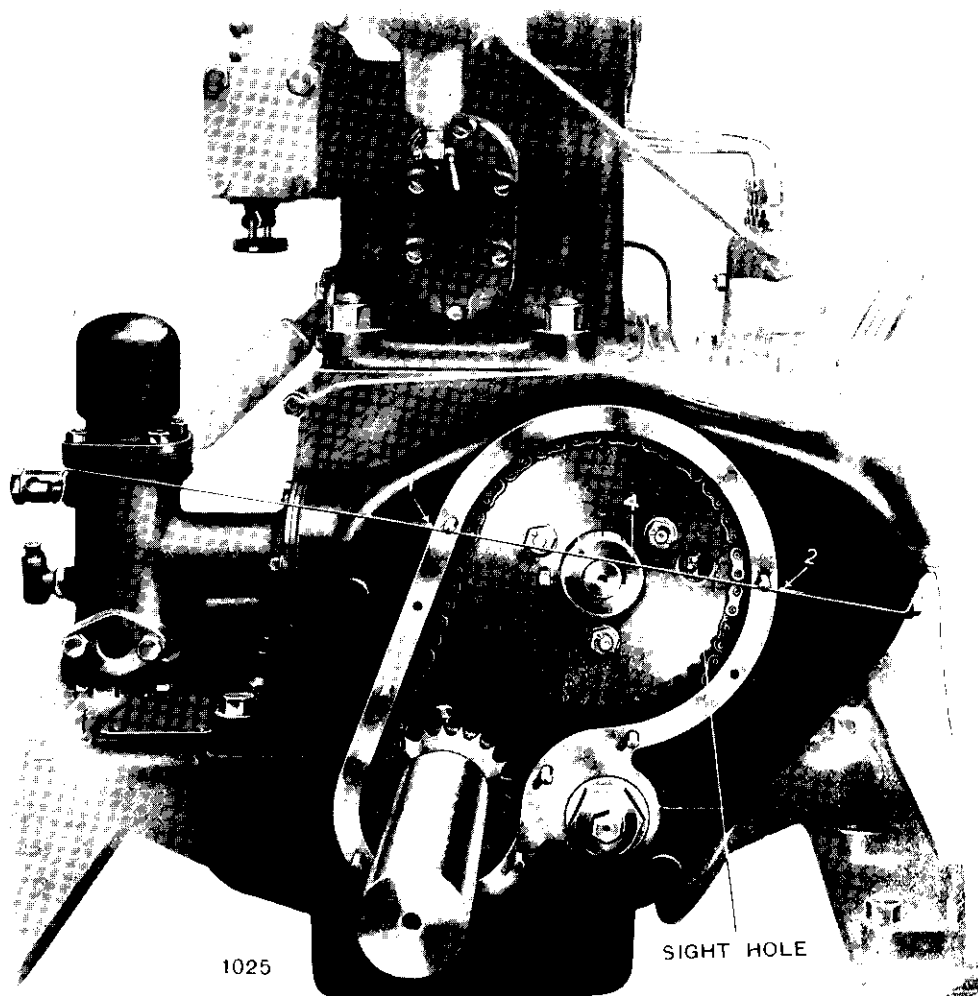

FIG. 13
- 106. Timing of Camshaft Gears.** (See Fig. 13).—Remove the cover of the gear case and turn the flywheel until No. 1 crank comes on the top dead centre of the compression stroke. (See para. 102). When all is correctly timed the following events take place :—
- (1) The dots 1 and 2 on the gear case and the dots 3 and 4 on the boss of the camshaft gear are all in one straight line as indicated by the white cord in the picture.
- (2) The line on the disc of the large chain-gear registers with the line on the boss of the camshaft gear.
- (3) Through the sight hole in the large chain-gear the teeth of the valve and pump camshaft gears are visible, and it will be found that the dotted tooth of the valve camshaft gear lies between the two dotted teeth of the pump camshaft gear.
- 108. Correction for Stretch (Wear) of Timing Chain.** Owing to the fact that, in the course of time, the timing chain wears and consequently increases in length, the timing of the valves and the fuel injection becomes slightly retarded, therefore compensation should be made when required. To this end inspect the timing as indicated in para. 102, after, say, 700 hours working, and if it be found that the timing is retarded, proceed as follows : Turn the flywheel until the injection timing line is in line with the zero line on the crankcase, then slacken the three hexagon nuts on the main chainwheel shown in Fig. 13 and rotate the fuel pump camshaft or the valve camshaft until the lines on the windows of the fuel pump coincide as indicated in para. 105. Check the timing again after tightening the nuts. Injection should begin at approximately 7° before the T.D.C.